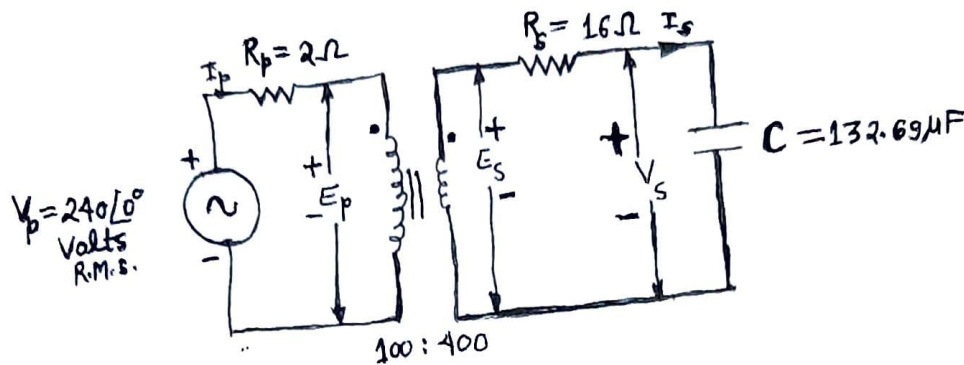

FIGURE 5B
- Q.5 A. How many turns must the primary and secondary windings of a 220-V/110-V, 60-Hz, ideal transformer have if the core flux density is not allowed to exceed 0.50 Tesla? Assume that the area of cross-section of this transformer's core is equal to 100 square centimeters. Note that 1 Tesla is defined to be equal to 1 Weber per square meter. B. For the non-ideal transformer schematically depicted in Figure 5B, calculate i) the input impedance (that is, the impedance seen between the two terminals of the voltage source), ii) the primary current, iii) the secondary current, iv) the AWG wire size for the primary winding, v) the AWG wire size for the secondary winding, and vi) the voltage seen across the two terminals of the capacitor. Assume that the frequency of operation is 50 Hz.